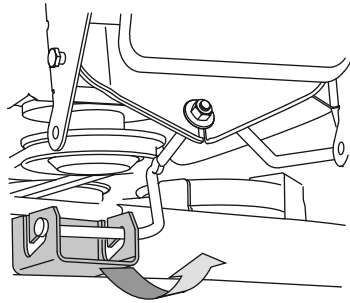

Figure 32
- On 38" decks, gently slide the cutting deck toward the front of the tractor carefully guiding the hooks on the deck on the deck off of the deck stabilizer rod. See Figure 32.